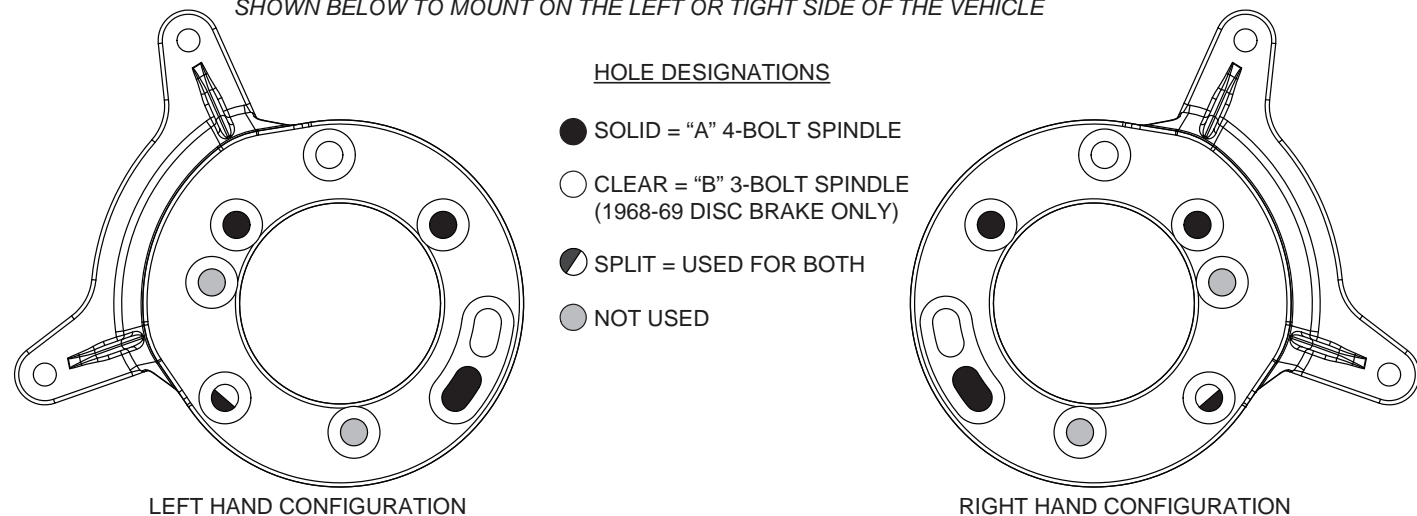
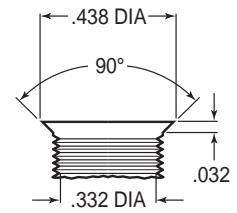
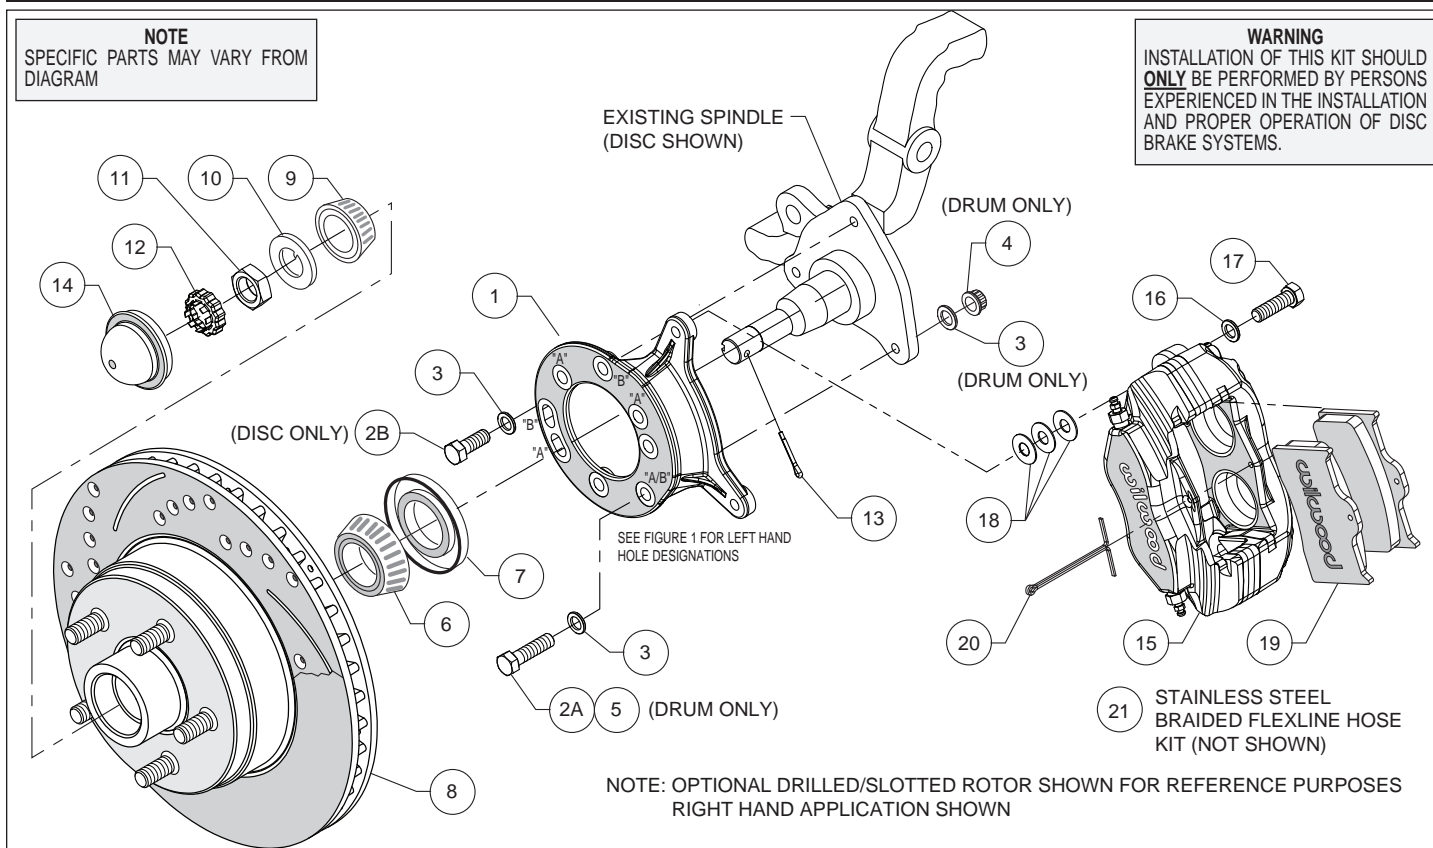

Figure 1. Wilwood Caliper Mounting Bracket
Figure 2. Drill and Tap Detail
Figure 4. Typical Installation Configuration
This kit has been designed for use with both the disc brake or the drum brake configuration of vehicle. The only difference is in how the Wilwood caliper mounting bracket is installed. The same bracket is used for both configurations; the disc brake version utilizes three mounting holes while the drum brake application uses four mounting holes (see Figure 1). For your convenience we have supplied bolt kits for both applications (see parts list and Figure 4 as necessary). Use the bolt kit that is applicable to your vehicle and disregard the other one.
NOTE: This modification should be performed by a qualified machinist and completed before assembly of the Wilwood disc brake kit begins. Using the caliper mounting bracket as a template (refer to Figure 1 as necessary), locate and verify the three original holes on the spindle that need to be modified. Drill a .332" diameter hole through all three holes, then tap 3/8-24 UNF (fine thread). Countersink the holes to .438" diameter x 90°, as shown in Figure 2.
Assembly Instructions (numbers in parenthesis refer to the parts list, and Figure 4).
•**NOTE:** This kit uses the same mounting bracket (1) for both the drum and disc brake spindles. The drum version, Photo 1, uses four mounting bolts (designated "A"), while the disc version, Photo 2, uses three (designated "B"). Refer to Figures 1 and 4 for the basic installation position of the bracket and the "A" and "B" reference designations (not physically marked on the brackets).
•**For Drum Spindle:** Align bracket, using the four "A" holes, to the face of the spindle and attach using bolts (2A and 5), washers (3), and lock nuts (4), as shown in Figure 4 and Photo 1. Torque lock nuts to 30 ft-lb.
•**For Disc Spindle:** Align bracket, using the three "B" holes, to the face of the spindle and attach using bolts (2B) and washers (3), as shown in Figure 4 and Photo 2. Finger tighten. Remove bolts one at a time, apply red *Loctite*® 271 to threads, and torque to 40 ft-lb.
•Pack the large inner bearing cone (6) with high temperature disc brake bearing grease (available from your local auto parts store) and install into the backside of the hub (8), Photo 3.
•Install the grease seal (7) by pressing into the backside of the hub (8), flush with the end of the hub.
•Pack the small outer bearing cone (9) with high temperature disc brake bearing grease and install into the front side of the hub (8). Slide the hub/rotor onto the spindle. Secure using spindle washer (10) and spindle nut (11). Adjust bearings per OEM specifications. Install spindle nut retainer (12) and a new cotter pin (13), Photo 4.
•Press the dust cap (14) into hub (8), Photo 5.
•Mount the caliper (15) onto the caliper mounting bracket (1) using bolts (17) and washers (16), as shown in Figure 4. Initially place three .035" thick shims (18) on each bolt between the caliper and the bracket, Photo 6. Temporarily tighten the mounting bolts and view the rotor (8) through the top opening of the caliper. The rotor should be centered in the caliper, Photo 7. If not, adjust by adding or subtracting shims between the bracket and the caliper. Always use the same amount of shims on each of the two mounting bolts. Once the caliper alignment is correct, remove the bolts one at a time, apply red *Loctite*® 271 to bolt threads, and torque to 40 ft-lb.
•Install the disc brake pads (19) into the caliper, with the friction material facing the rotor (8), Photo 8. Secure in place using cotter pin (20), Photo 9.